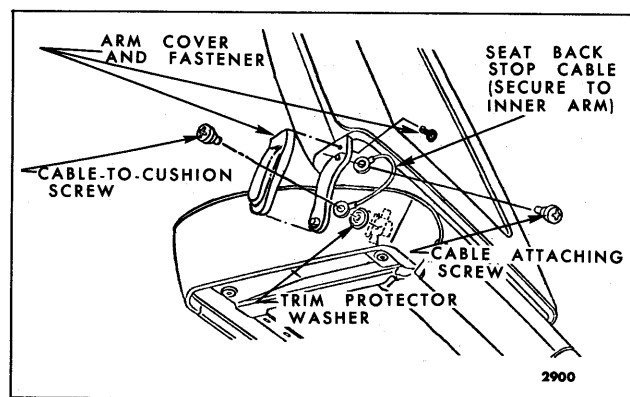

Fig. 15-31—Bucket Seat Back Stop Cable
1. Using a flat-bladed tool inserted between passenger's seat back inner hinge arm cover and hinge arm, carefully disengage upper portion of cover from fastener and remove cover from inner hinge arm (Fig. 15-31).
2. At inner side of passenger's bucket seat cushion, remove screw securing seat back stop cable and trim protector washer to seat cushion frame (Fig. 15-31).
3. Remove bolt securing seat back stop cable to seat back inner hinge arm (Fig. 15-31) and remove cable from seat.
2. Using a flat-bladed tool inserted between seat back hinge arm and hinge arm cover, carefully disengage upper portion of cover from fastener and remove cover from both inner and outer hinge arms (See Fig. 15-31). If removing passenger's seat back on Chevrolet "F & Z" styles, remove screw securing seat back stop cable and trim protector washer to seat cushion frame (Fig. 15-31).
3. Carefully disengage and remove retainer securing both inner and outer hinge arms to seat cushion hinge pins (Fig. 15-31).